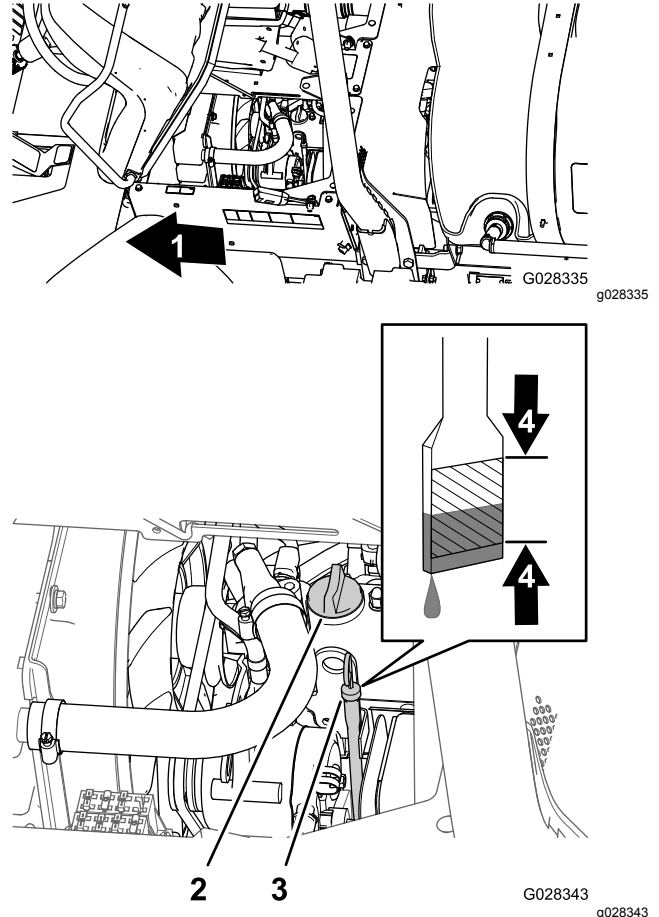

Figure 68
2. Remove the dipstick, located under the passenger seat, and wipe it with a clean rag (Figure 68).
3. If the oil level is low, remove the filler cap from the valve cover (Figure 68) and pour oil into the filler neck until the oil level is up to the Full mark on the dipstick.
4. Install the oil-filler cap (Figure 68).
5. Install the dipstick firmly in place (Figure 68).